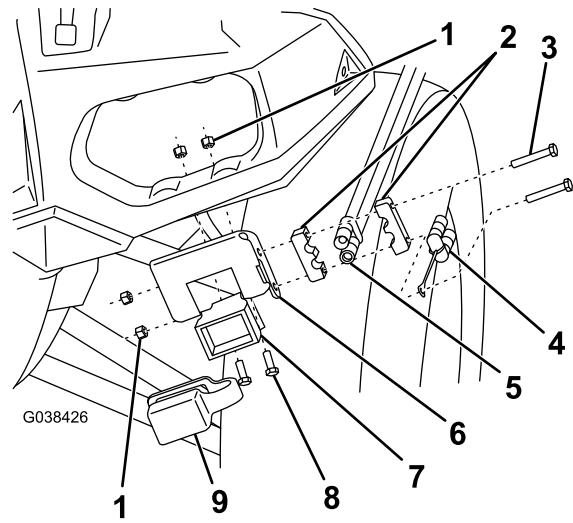

Figure 10
2. Mount the vehicle-side, wire-harness plow connector to the left side of the front bumper using the control-harness mounting-bracket and 2 cap screws and self-locking nuts (Figure 10).
3. Mount the power/ground connector to the control harness mounting bracket (Figure 10).